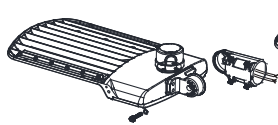

Figure 1
1.ADJUSTABLEFITTER MOUNTING (AM)
Step 1: Remove the bracket mounting screws on the fixture and run the wires through the bracket. (Figure 1)